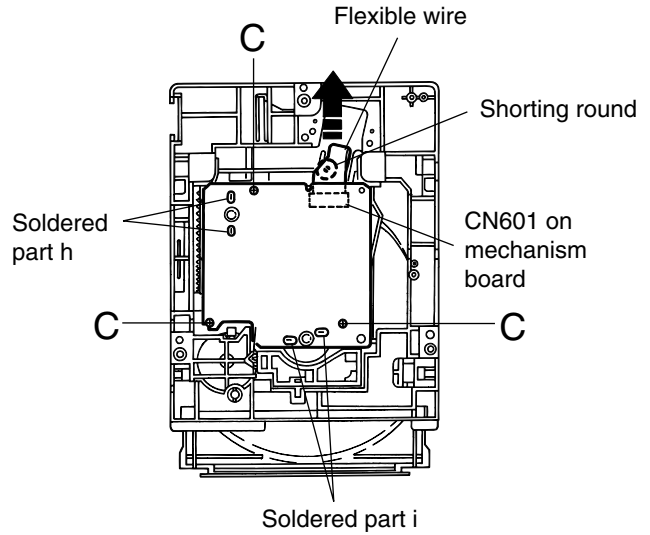

Fig. 10
■ Removing the Mechanism Board (Refer to Fig 10.)